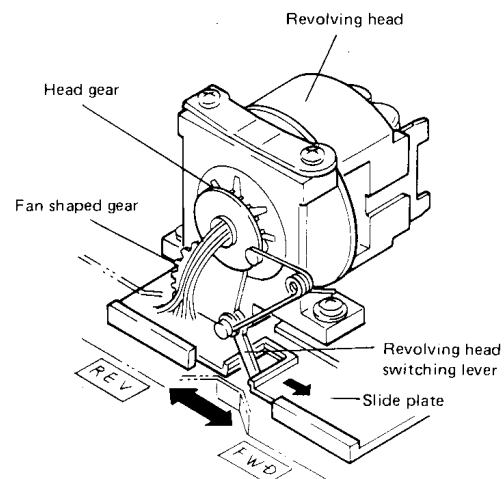

Fig. 10-6 Revolving head switching
- (1) When the slide plate is slid across to the right as indicated in Fig.10-6, the end of the revolving head switching lever is caught by a slit in the switching slide and is shifted across to the right as well. The fan-shape gear is consequently rotated counter clockwise, and the revolving head coupled to this gear is rotated by  $180^\circ$  to set the head in the FWD recording/playback position.
- (2) The slide plate is shifted across to the left to set the head in the reverse recording/playback position.
- (3) A spring is used to set the head into position by snap action and thereby ensure that head is always set in the correct position.